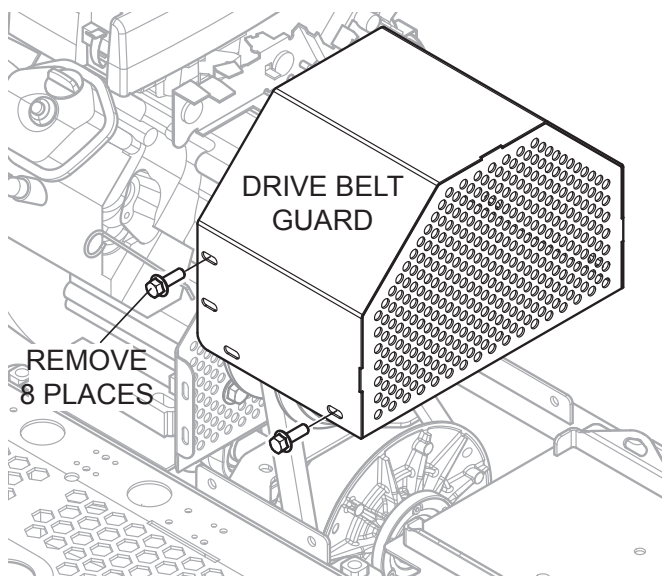

Figure 18. Drive Belt Guard Removal
To gain access to the drive belt, remove the drive belt guard (Figure 18), then visually inspect the drive belt for signs of damage or excessive wear. Replace the drive belt if it is worn or damaged.
1. To gain access to the drive belt, remove the drive belt guard (Figure 18).